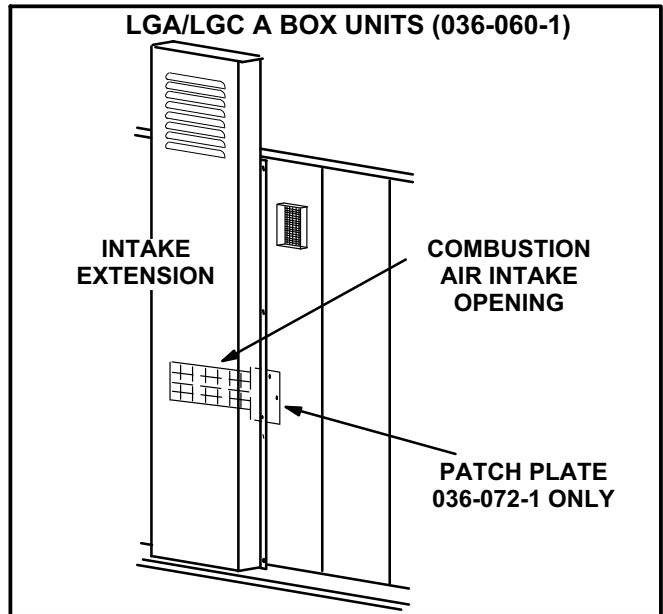
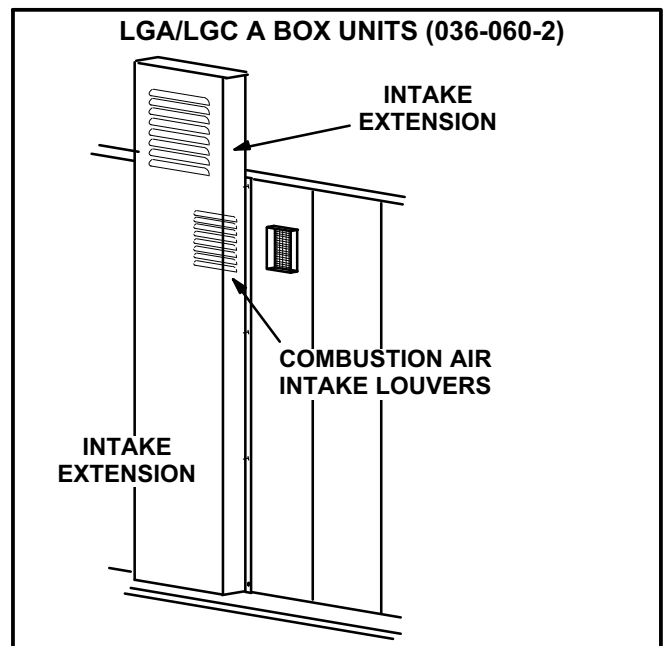
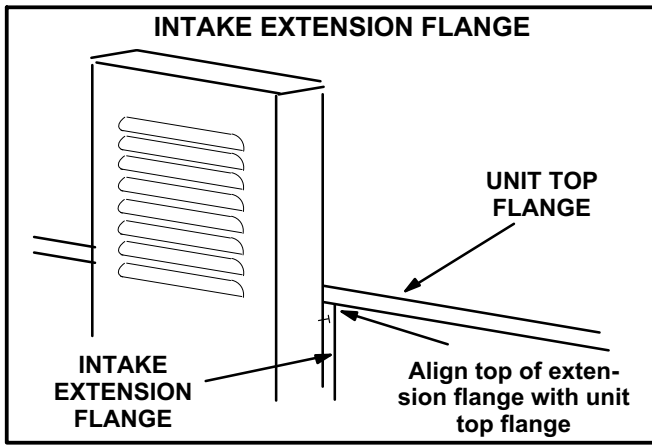

FIGURE 1
FIGURE 2
FIGURE 3
intake as shown in figure 1. Secure in place with all three screws. Discard patch plate when installing extension on -2 units.
- 3- Install intake extension over combustion air intake louvers. See figure 1 for -1 units and figure 2 for -2 units. Align top of intake extension flange just under unit top flange. See figure 3. Secure in place with screws provided.